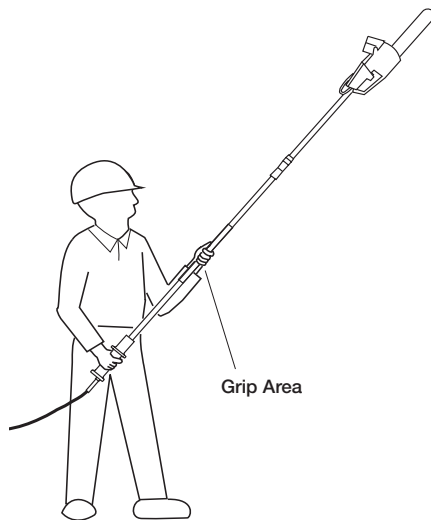

Figure 19 - Designated Grip Areas
2. Use both hands to grip pole saw. Use only designated grip areas when operating pole saw (see Figure 19). Use firm grip. Thumbs and fingers must wrap around pole saw handle and pole.